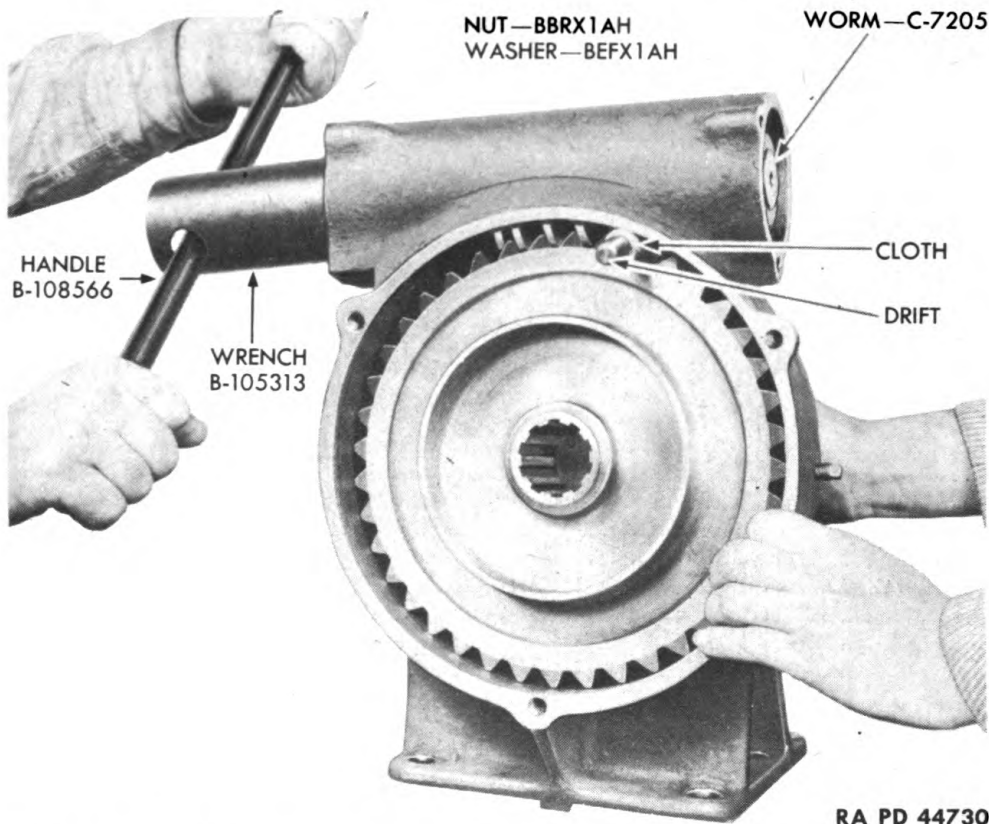

Figure 157—Installing Traversing Worm Front Bearing Lock Nut
(2) Coat the mating surfaces of the worm wheel with **GREASE**, general purpose (seasonal grade). Assemble the worm wheel on the splined end of the traversing worm wheel pinion, taking care that the seal **A171717** is not forced through the housing.
(3) Coat bearing seat of traversing gear housing with grease and insert traversing worm through the rear end of housing.
(4) Pack the traversing worm front and rear ball bearings with grease, working grease well into the balls and races. Install the front and rear ball bearings on the worm.
(5) Insert a small brass drift wrapped in clean cloth between worm and wheel to prevent worm from turning (fig. 157). Place the front bearing lock washer in position on worm shaft with lock washer lugs inclined outward. Follow with bearing lock nut with tapered side toward lock washer. Line up one lug of lock washer with slot in lock nut after nut is tightened. Bend lug into slot to lock the nut. Install the rear bearing lock washer and lock nut in the same manner. Remove